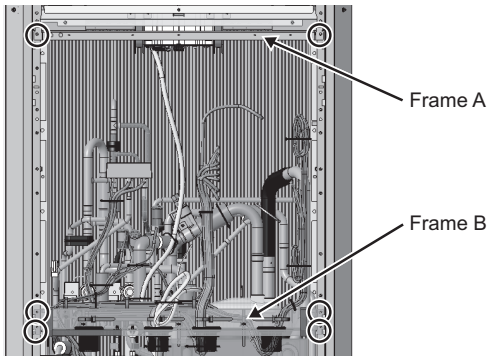

Fig. 4
- (4) Remove the wires that are secured to frame B and remove frames A and B. (Six screws: Fig. 4)